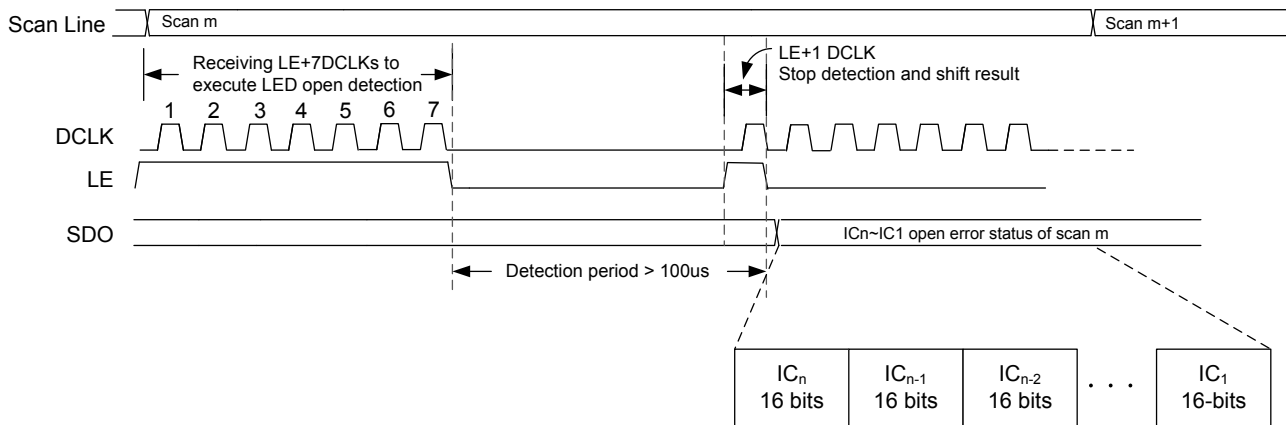

Figure 12. The timing diagram of compulsory open-circuit detection
As figure 12 shows, MBI5153 executes the compulsory open-circuit detection while the LE high pulse is sampled by 7-DCLK rising edges. In the duration of compulsory open circuit detection, all the output channels will be turned off. When LE high pulse pin is sampled by 1-DCLK rising edge, the result of open circuit detection will be shifted out from the SDO pin and the sequence is from /OUT15 → /OUT14 → ... to /OUT0.
1. During the detection, the frame cannot display normal until LE arrested 1-DCLK rising edge. The duration should be keep longer than 100us, as figure 12 shows.